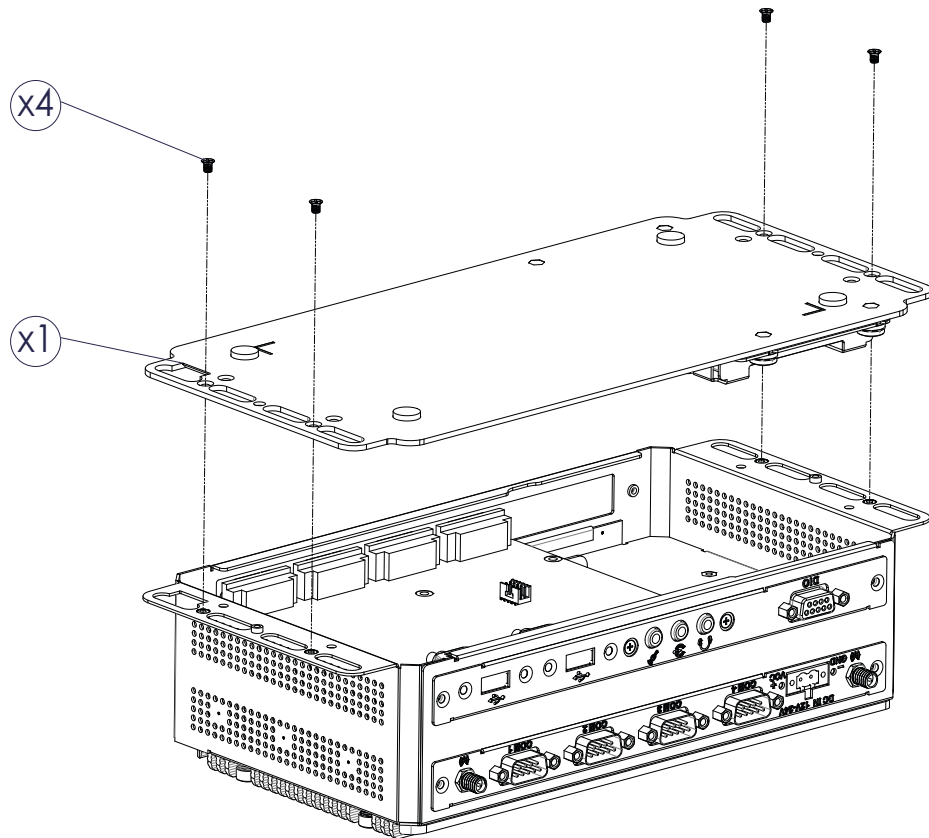

Figure 2.19 Illustration for step 1 and step 4
1. Unscrew the four screws on bottom cover. (Figure 2.19)
4. Screw the four screws on bottom cover back. (Figure 2.19)